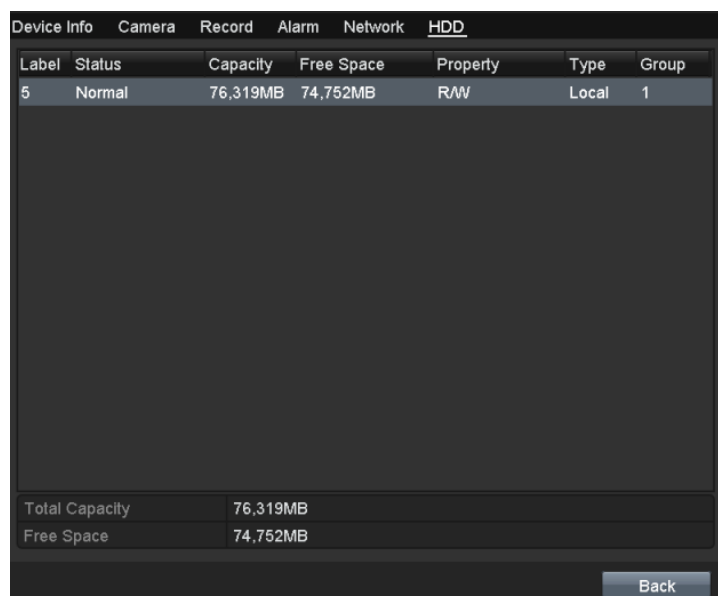

Figure 13. 20 View HDD Status (2)
2. Click the **HDD** tab to view the status of each HDD displayed on the list, as shown in Figure 13. 20.